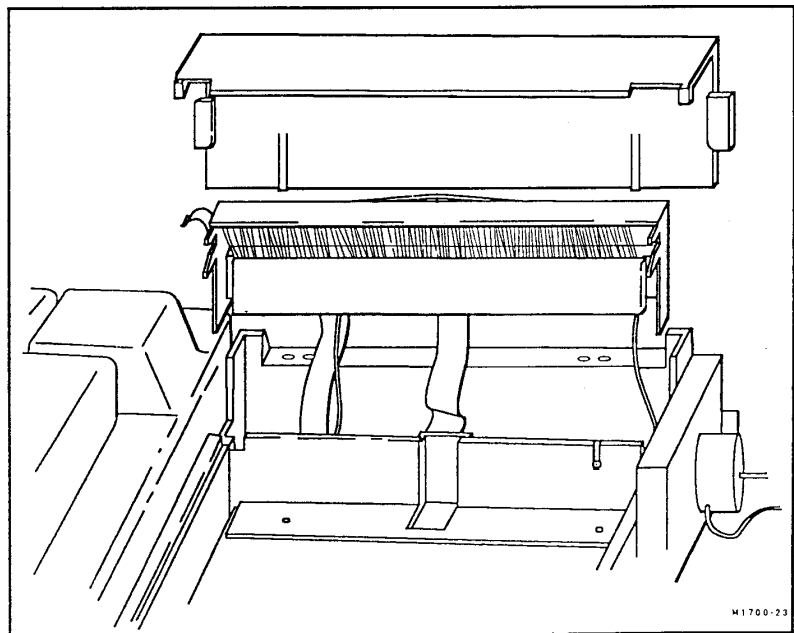

Figure 7-5. Removing the Printhead Cover.
3. Lift off the printhead cover as shown in Figure 7-5. As you lift off the cover, note how the tabs on the printhead cover interlock with the other plastic parts of the top cover.